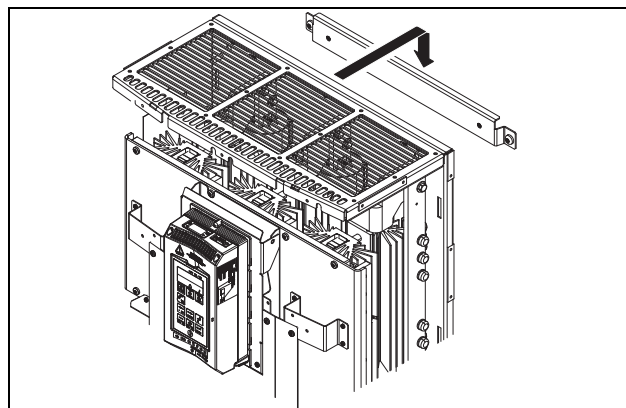

Fig. 18 Assembling of the TSA unit on the bracket.
2. Assemble (hang) the TSA unit on the mounting bracket, see Fig. 18.